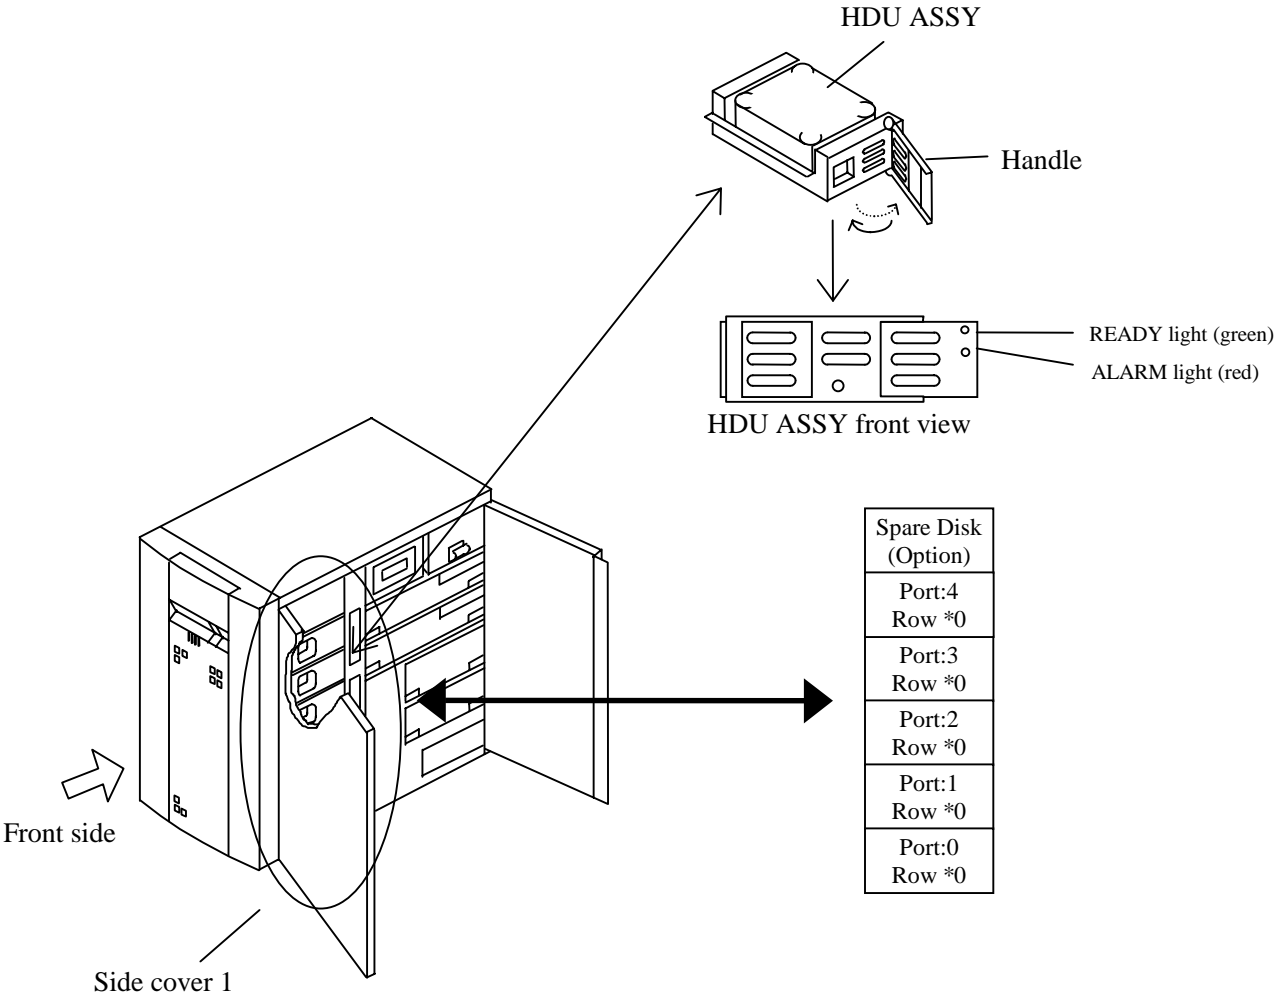

Figure 5.4.6 Installing the HDU ASSY
- (1) Make sure a backup copy of necessary data has been made.
- (2) Open the front cover.
- (3) Remove the old HDU ASSY and set the new HDU ASSY. (See Figure 5.4.6.)